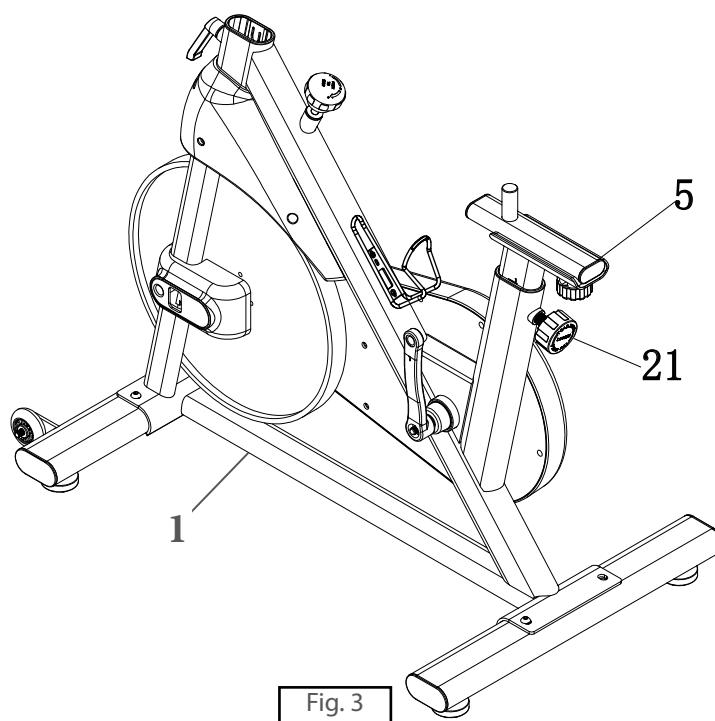

Fig. 3
1. Rotate the seat cushion adjustment pull pin (21) out of the the car frame (1).
2. Remove the seat cushion adjustment (5) from of the car frame (1).
3. Insert the seat cushion adjustment (5) into the car frame (1) according to the illustration below (fig. 3).
4. Retighten the seat cushion adjustment pull pin (21) on the car frame (1).